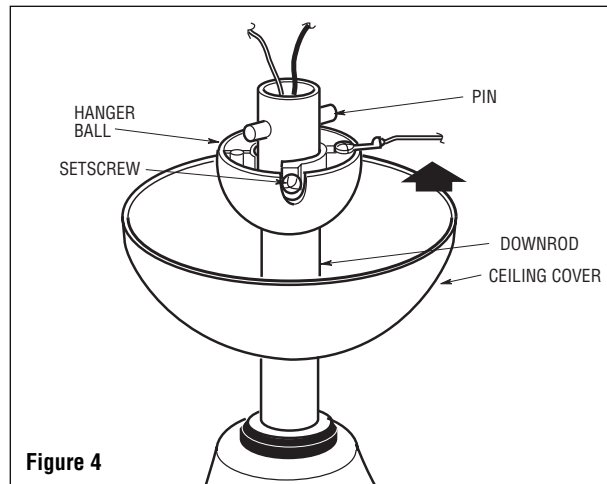

Figure 4
7. Reinstall the hanger ball (Figure 4) on the downrod as follows. Route the motor leads through the downrod. Position the pin through the two holes in the downrod and align the ball so the pin is captured in the groove in the top of the hanger ball. Pull the hanger ball up tight against the pin and securely tighten the setscrew in the hanger ball. A loose setscrew could create fan wobble.